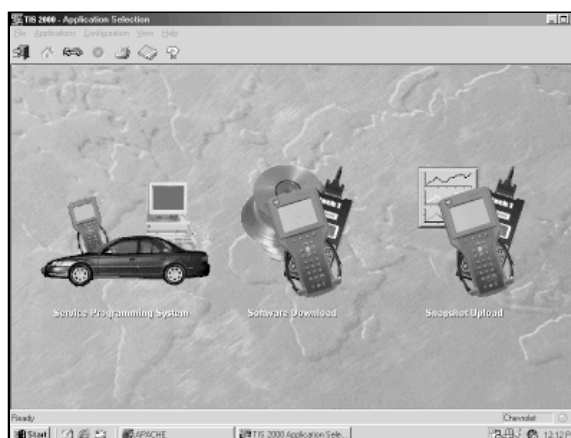

Figure I-16, Application Selection screen
2. The TIS 2000 Application Selection screen appears. (Figure I-16)